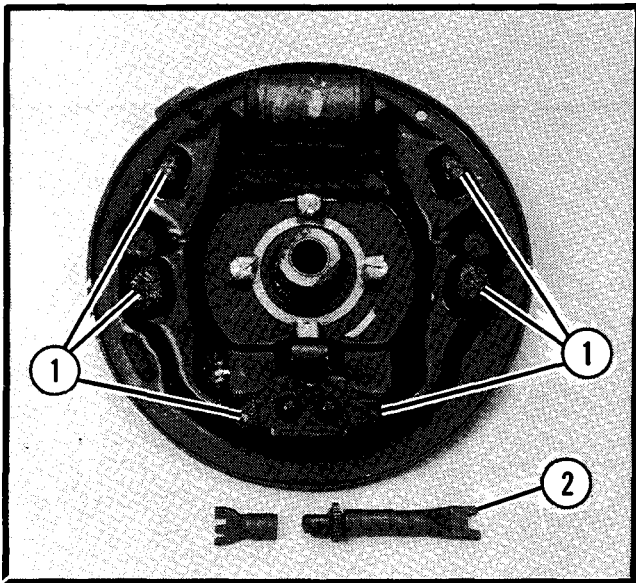

Figure 8.
1. Apply a thin layer of high temperature grease to the brake backing plate where the brake shoes make contact (6 places), and brake adjuster. See Figure 8.